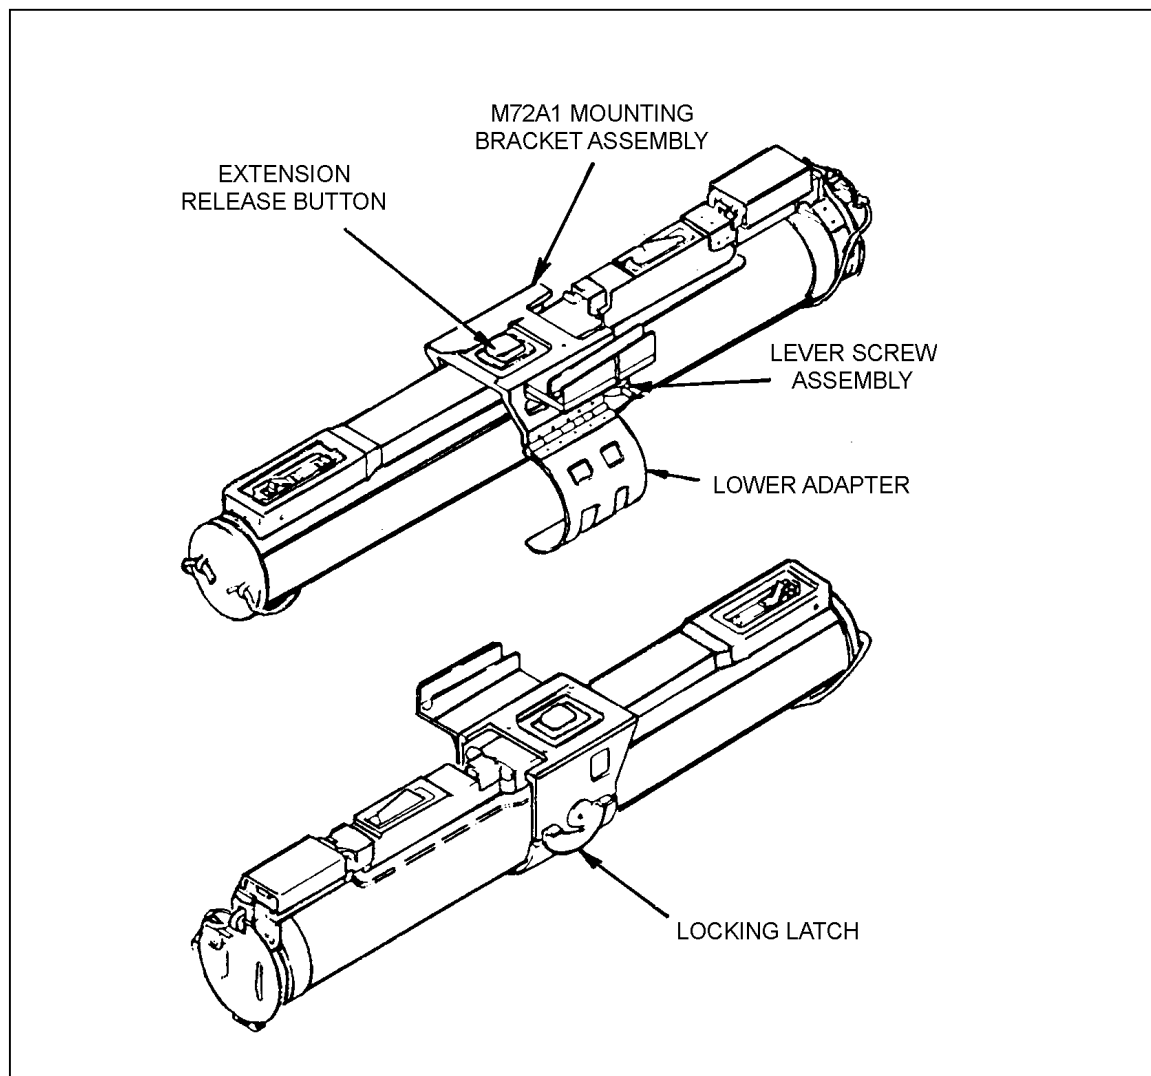

Figure 2-11. Installing M72A1 mounting bracket assembly.
(1) Place the bracket assembly on top of the rocket launcher (Figure 2-11) so that the square cutout in the top of the bracket fits over the extension release button.
(2) Swing the lower adapter section up and under the rocket launcher and secure it by turning the locking latch clockwise to fully engage the latch shoulder screw.
(3) Place the sight in the groove on the bracket and align the threaded screw hole in the base of the sight with the lever screw assembly. Tighten the lever screw assembly firmly.